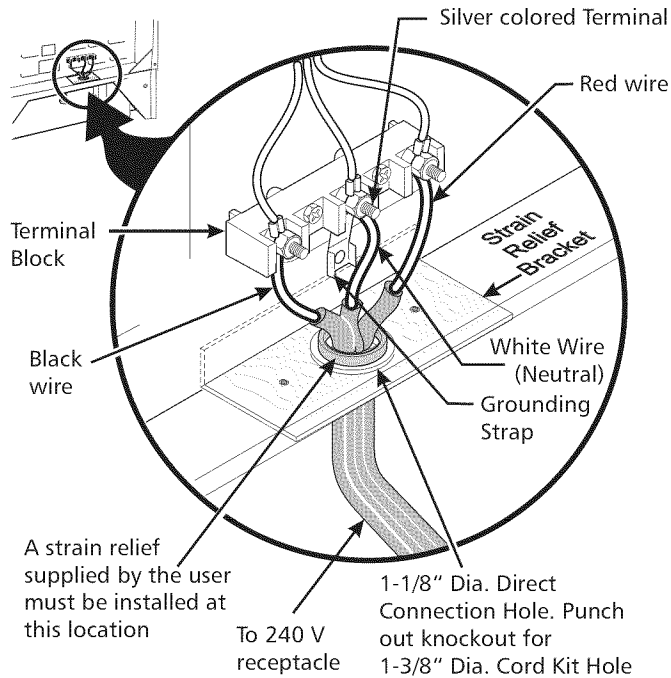

Figure 3
NOTE: Dual fuel Slide-in Range is shipped from factory with 1 1/8" dia. hole as shown on figure 3. If a larger hole is required, punch out the knockout.
WARNING Risk of fire or electrical shock exists if the incorrect amperage cord is used, the Installation Instructions are not followed, or the strain relief bracket is discarded (see Figure 3).
(The 3-conductor cord or cable must be replaced with a 4-conductor cord or cable where grounding through the neutral conductor is prohibited in new installations, mobile homes, recreational vehicles or in other areas where local codes do not permit neutral grounding) If local codes permit connection of the frame grounding conductor to the neutral wire of the copper power supply cord (see Figure 3):
- Replace the 3 nuts on the terminal block. (See Figure 3)